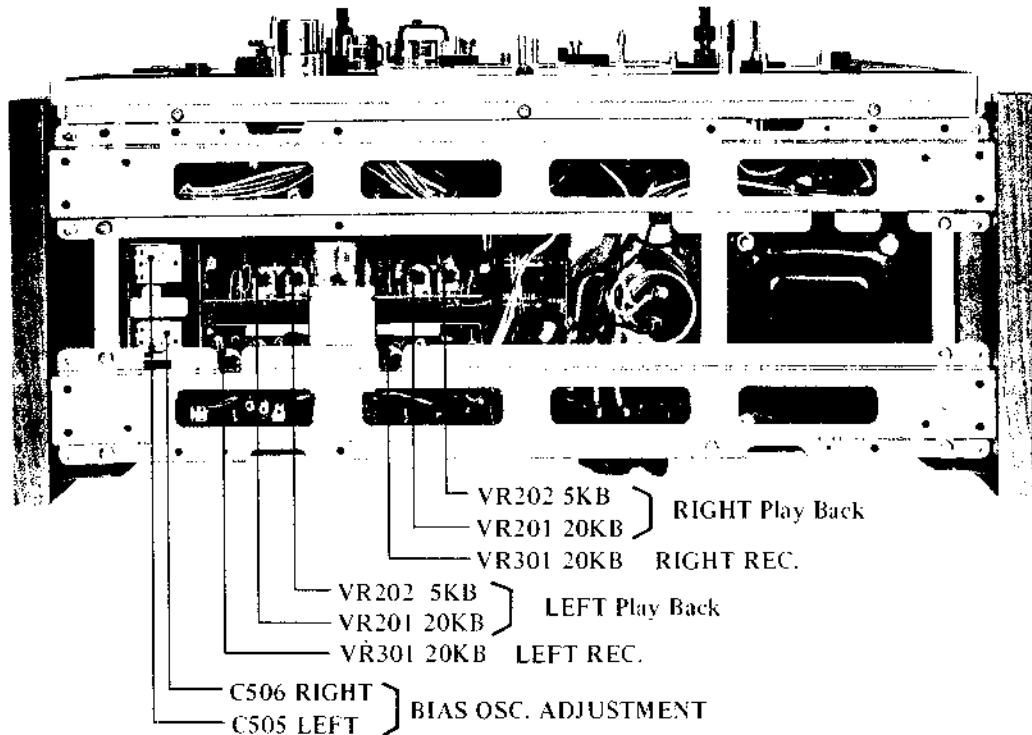

Fig. 7-1
- Adjust VR-201 (semi-fixed resistor 20 KB, Fig. 7-1) of the pre-amplifier so that the Line Output Voltage is 1.228 V (+4 dBm).
- Adjust VR-202 (semi-fixed resistor 5 KB, Fig. 7-1) of the pre-amplifier so that the VU Meter Needle indicates "0" VU (intermediate between red and white).